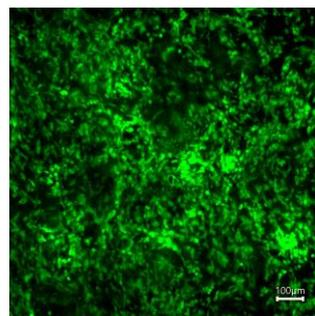
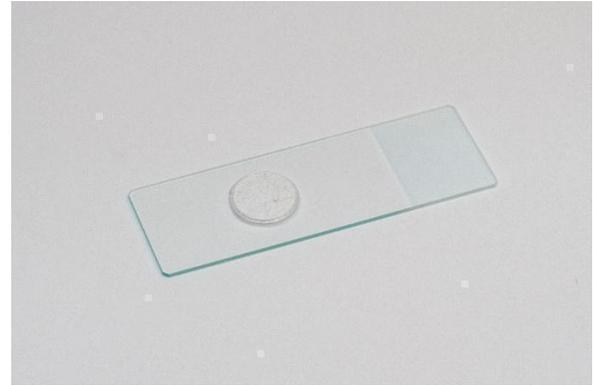

Figure 5. HeLa cells after day 3.
Figure 8. Handling and fixing the Gelacell inserts using mounting media for imaging.
The scaffolds exhibit promising biocompatibility with various cell types, including HELA, HEK293, HUH7, HEPG2, U2OS, BHK21, and C2C12. Their biomimetic design and specialized polymer composition enhance cell-material interactions, supporting key processes like cellular attachment and spreading - crucial for cell growth and function. HELA and HUH7 cell lines show adherence, proliferation, and infiltration within the scaffold structure (as depicted in Figure 5 to Figure 8). This compatibility is vital across diverse tissue engineering applications, enabling these cell lines to thrive within the scaffold's microenvironment.
4. **Handling:** Employ fine-point tweezers, either straight or angled, to grip the discs (refer to Figure 8). Position the discs facing the scaffolds on a glass slide that contains one or two drops of mounting media. This step is crucial to secure the discs in place. (Figure 8).